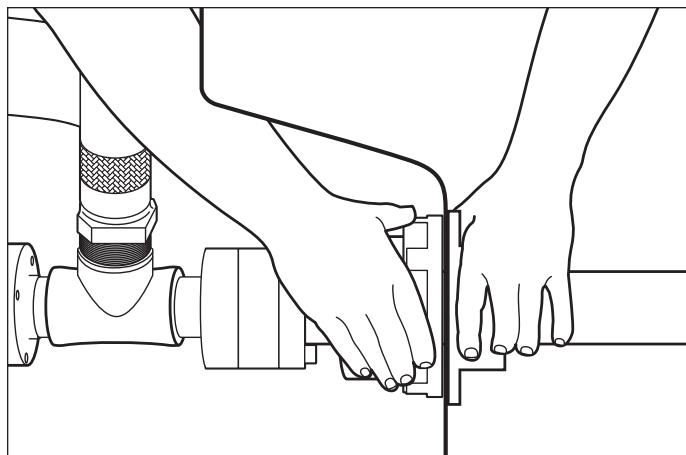

Figure 22-3
8. Use epoxy bonder cartridge with the applicator gun to cover the serrated surface of the threaded body and internal locking ring and tighten both down to the sump wall (Figure 22-3). For stainless steel sumps there is a Viton gasket to be used in place of the epoxy.